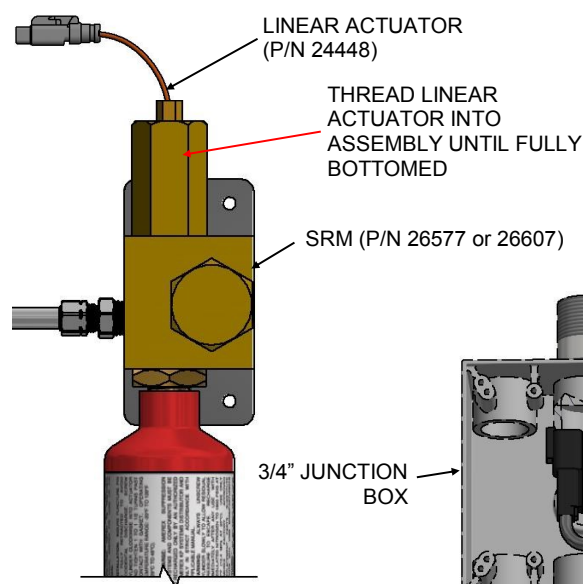
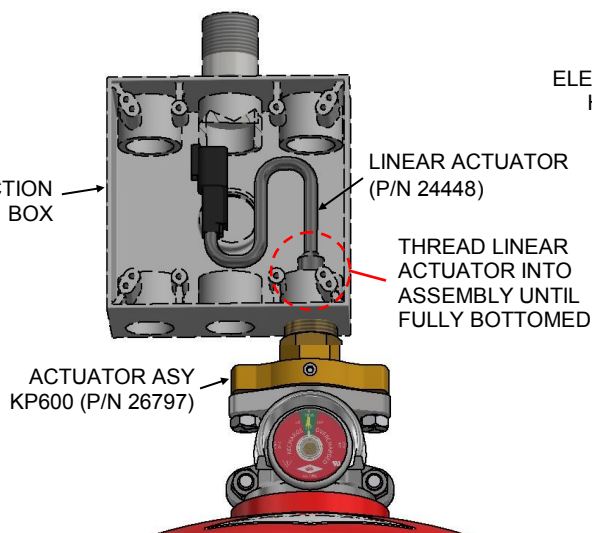
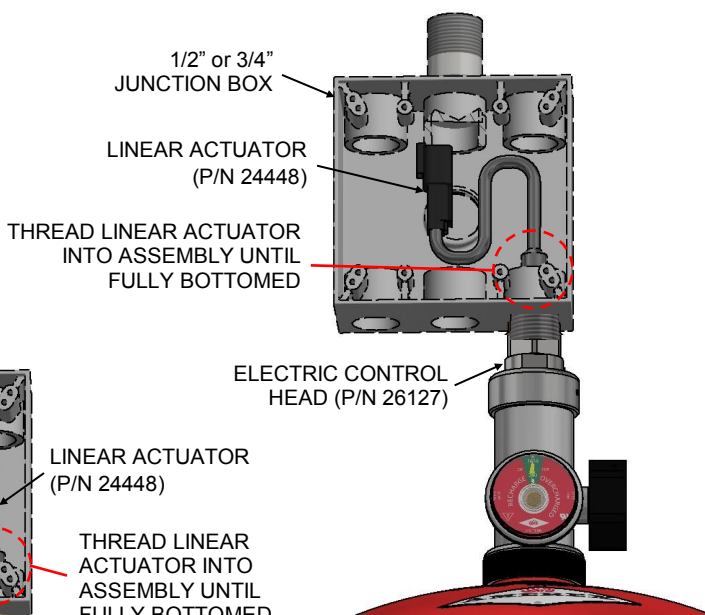

Figure 4.5a
Figure 4.5b
Figure 4.5c
1. Thread the Linear Actuator into the top of the SRM (See Figure 4.5a), Actuator Asy KP600 (See Figure 4.5b) or Electric Control Head (See Figure 4.5c) . **Hand tighten only and ensure that the brass hex portion of the Linear Actuator is fully bottomed against the electric actuator assembly. Do not over tighten. Do not use PTFE thread tape.**